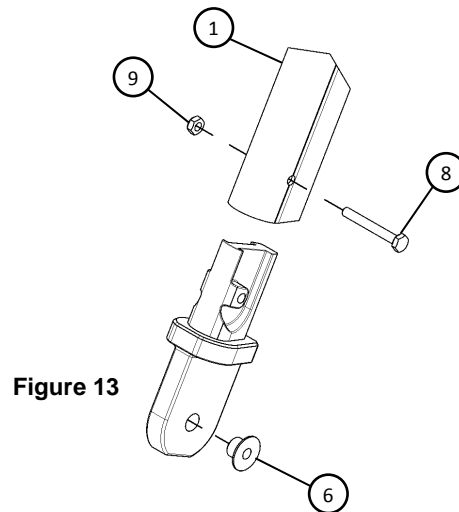

Figure 13
10) **See Figure 13.** Insert Arm End Pivot Casting (3) into drilled double bow arm and secure with 1/4-20 x 2" hex bolt (7) and 1/4-20 Nylock hex jam nut (9). Repeat for second arm.